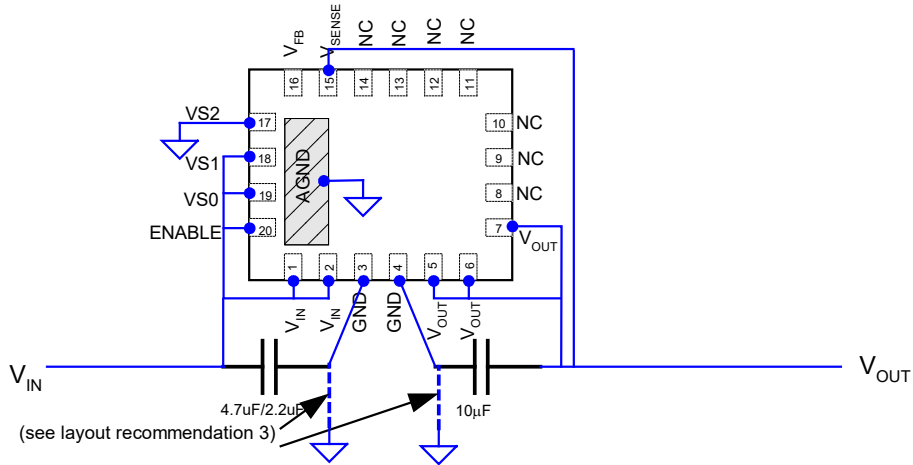
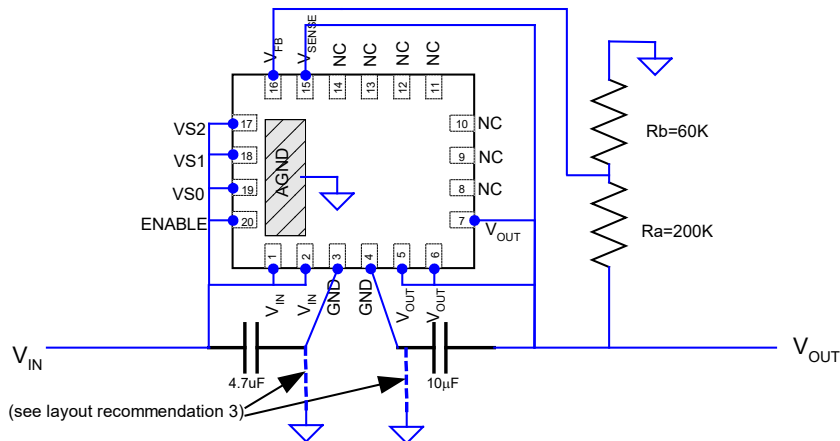

Figure 6. Example application,  $V_{out}=1.2V$
Figure 7. Schematic showing the use of external divider option,  $V_{out} = 2.6V$
**Recommendation 3:** Multiple small vias (0.25mm after copper plating) should be used to connect ground terminals of the Input capacitor and the output capacitor to the system ground plane. This provides a low inductance path for the high-frequency AC currents, thereby reducing ripple and suppressing EMI (see Fig. 5, Fig. 6, and Fig. 7).
Figure 6 shows an example schematic for the EP53x2QI using the internal voltage select. In this example, the device is set to a  $V_{OUT}$  of 1.2V ( $VS2=0$ ,  $VS1=1$ ,  $VS0=1$ ).
Figure 7 shows an example schematic using an external voltage divider.  $VS0=VS1=VS2=“1”$ . The resistor values are chosen to give an output voltage of 2.6V.